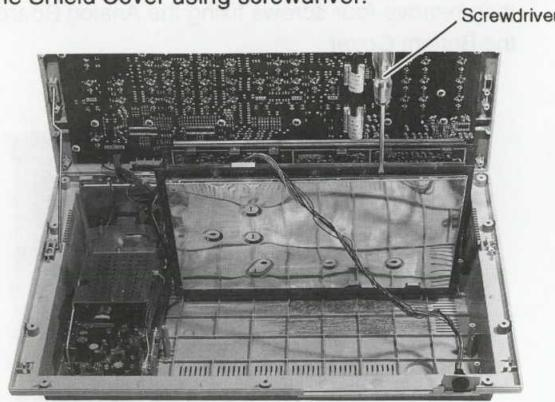

Fig. 2-6
- Referring to the Fig. 2-6, stand up the Digital Board and hook both sides of the Digital Board to the Mounting Angles of the Bottom Cover, and then remove the Shield Cover using screwdriver.